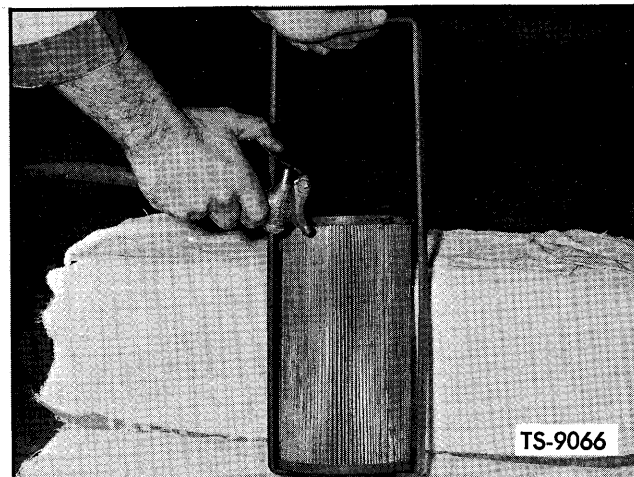

Fig. 5. Air Dry Filter Element and Inspect for Damage
4. Air dry element and relief valve components with filtered low pressure air as shown in Figure 5. Examine general condition of filter element checking for element cleanliness, deteriorated sealing gaskets, or screen damage. Replace deteriorated sealing gaskets with new gaskets using RUSCOE EPOXY CEMENT to secure new gaskets on element. If filter screen is damaged, replace with new element. Check relief valve components for any sign of damage replacing any component not in good service-